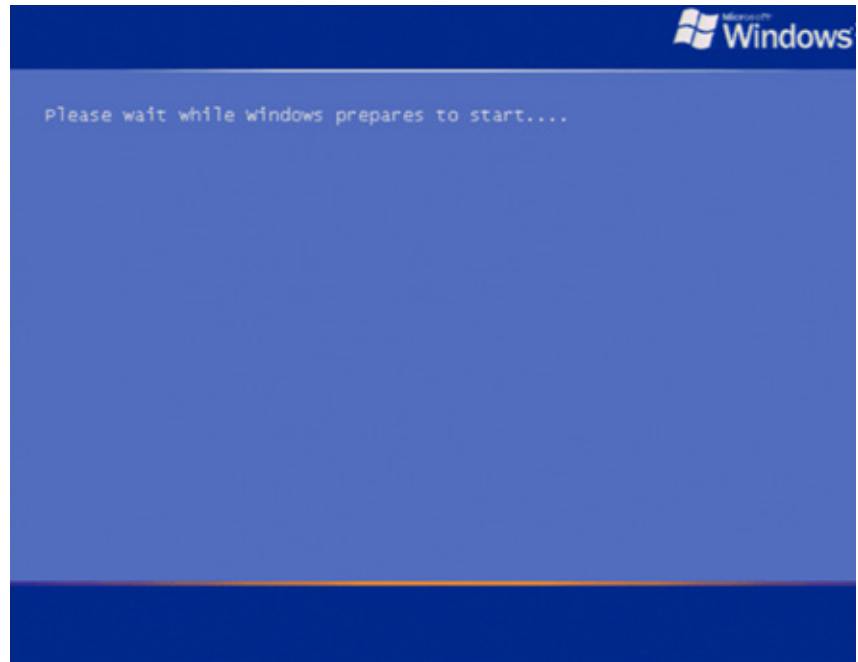

Figure 8 Windows start up screen
Step 4. The windows start up screen as shown in Figure 8 appears.